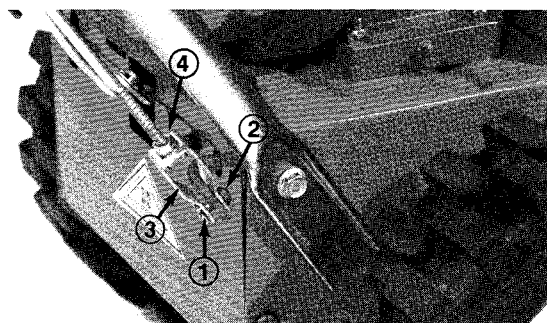

Figure 29
2. Remove cotter pin and clevis pin securing clevis to lower control rod (Fig. 29).